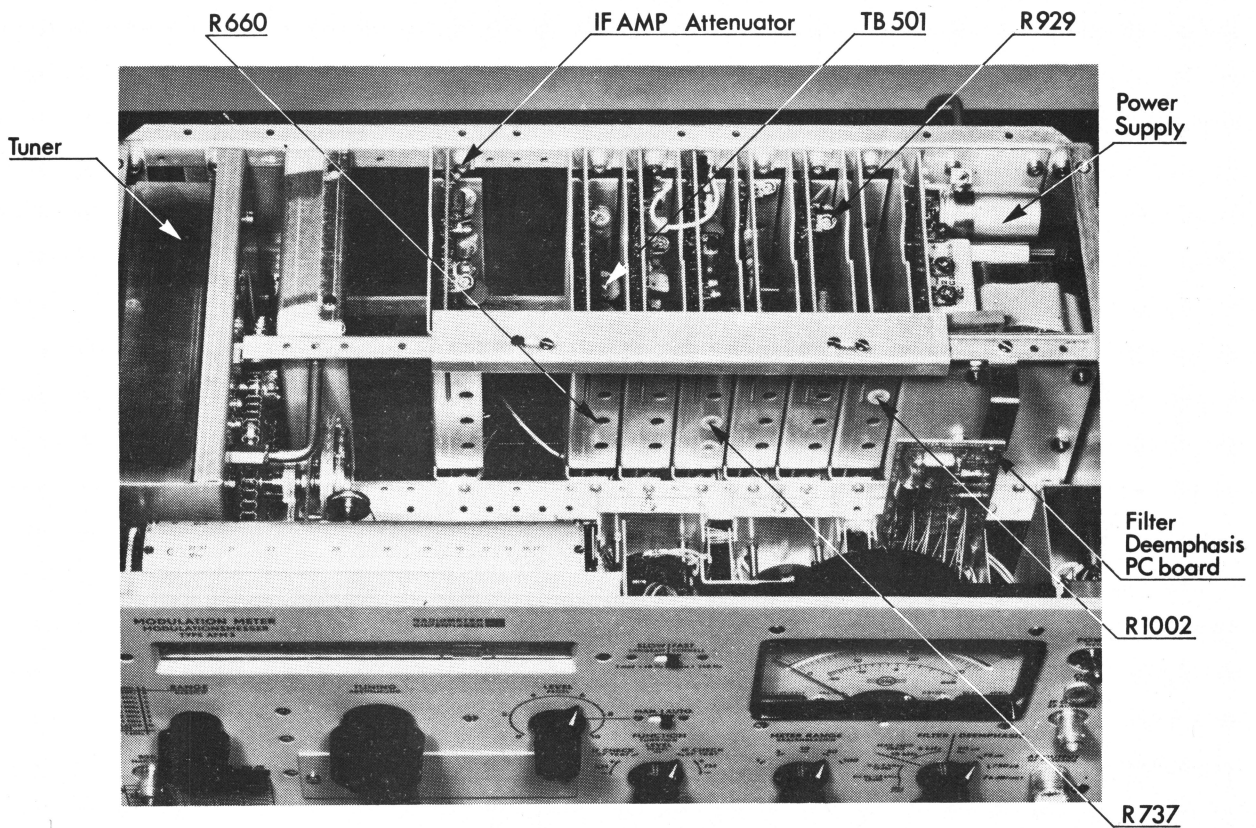

Fig. G7
- 2) Using a trimming tool, adjust potentiometer R660 (shown in Fig.G7) until the DC DVM indicates +10 V dc  $\pm 0.5\%$ .
- 8) Using a trimming tool, adjust the potentiometer R737 shown in Fig.G7 until the meter deflects to the IF CHECK mark on the scale.
- 3) Using a trimming tool, adjust potentiometer R929 shown in Fig.G7 until the meter indicates zero.
- 10) Using a trimming tool, adjust potentiometer R929 (shown in Fig.G7) until the AC DVM indicates 0.672 V (rms value).
- 3) Using a trimming tool, adjust potentiometer R1002 shown in Fig.G7, until the meter on the AFM3 indicates zero.